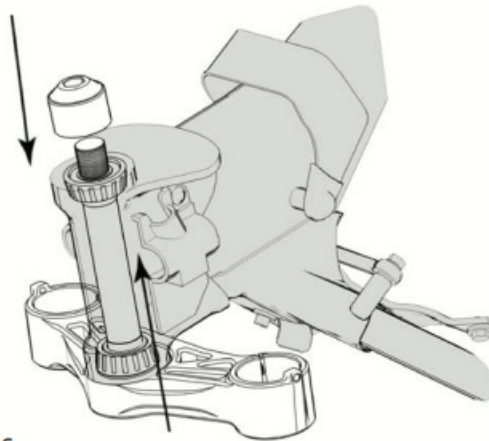

Fig. 6
8. Thread on Yoke Nut until there is a good bearing feel. (See fig. 6)